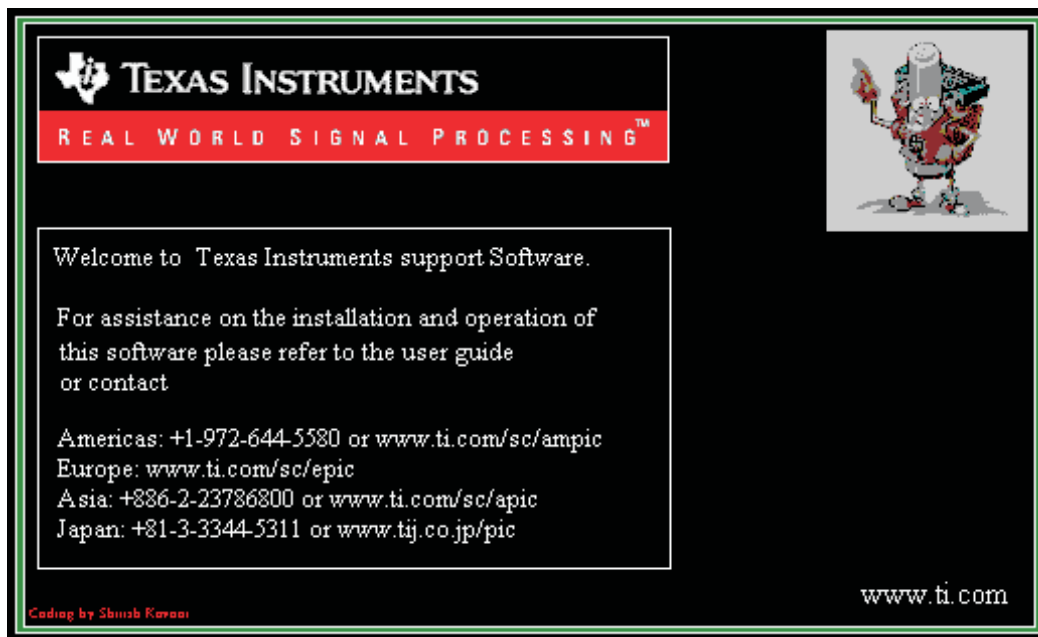

Figure 1. Welcome Screen
- The welcome screen shown in Figure 1 is displayed.